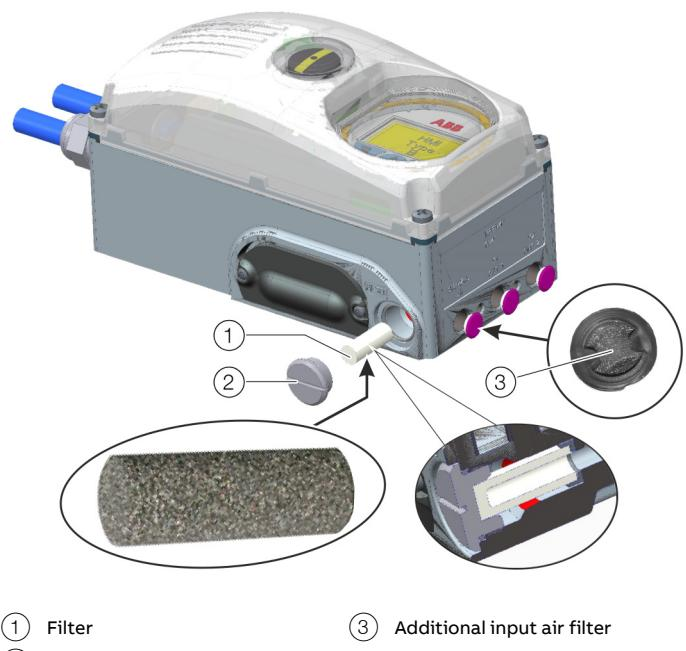

Figure 2: Supply air filter
This supply filter element (Figure 2, item ①) is easily accessible for service or exchange from the outside by removing the screw plug (Figure 2, item ②).
The additional input air filter element (Figure 2, item ③) is located inside the IN pneumatic port and is easily accessible for service or exchange.